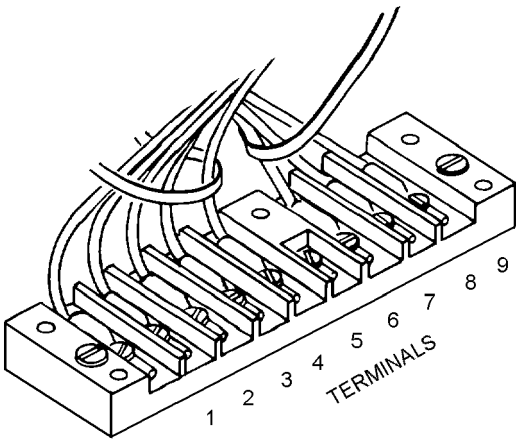

Figure 4-19. Terminal Strip
- 1. If not previously removed, remove screw from terminal (3) and remove two lead wires from terminal strip (figure 4-19).